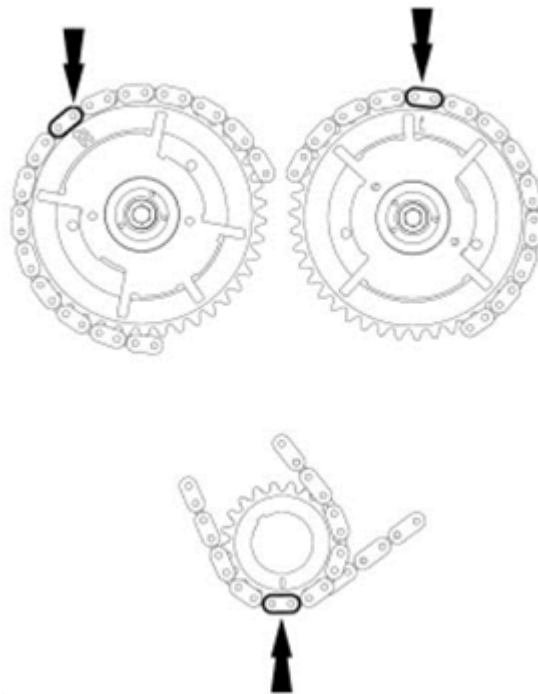

Figure 8 – Verify Timing Mark Alignment
11. As a post-check, verify correct alignment of all timing marks as seen in Figure 8. Also verify that the timing marks on the sprockets correspond with the following. The RH and LH camshaft phaser sprockets are similar. Refer to the single timing mark to identify the